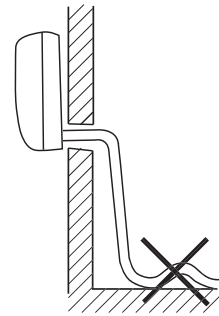

Fig. 9.3 Avoid kinking the pipe.
- Do not allow the drain line to be kinked or flattened which could reduce the flow of water from the indoor unit (see Figure 9.3).